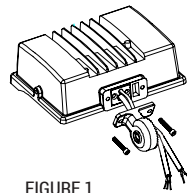

FIGURE 1
**Step 2:** Match the hole of rubber mat with bracket, pass wire through and fix it with screws. (Figure 1)